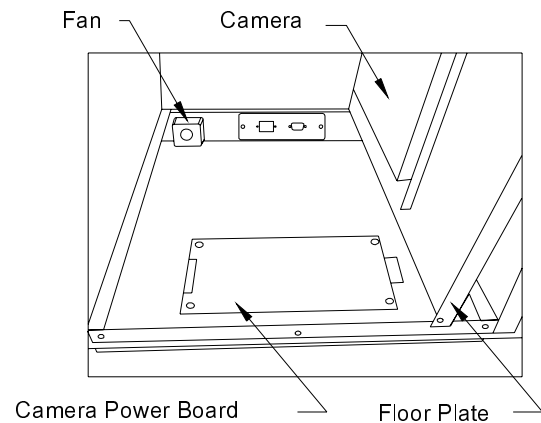

Figure 4-10
3. Lift and tilt the floor plate (with the camera mounted to the bottom) over to the right side as shown in Figure 4-10. Note that the camera shown in Figure 4-10 is the DC-12 option.